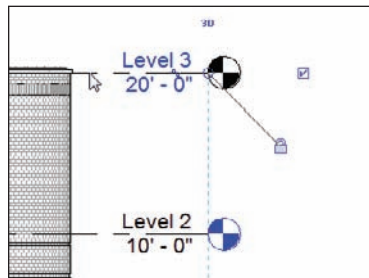

FIGURE 3.7 The completed Level 3. Remember, you are still in the Level command until you tell Revit to stop.
7. You should now have a Level 3 at 20’-0” (see Figure 3.7).